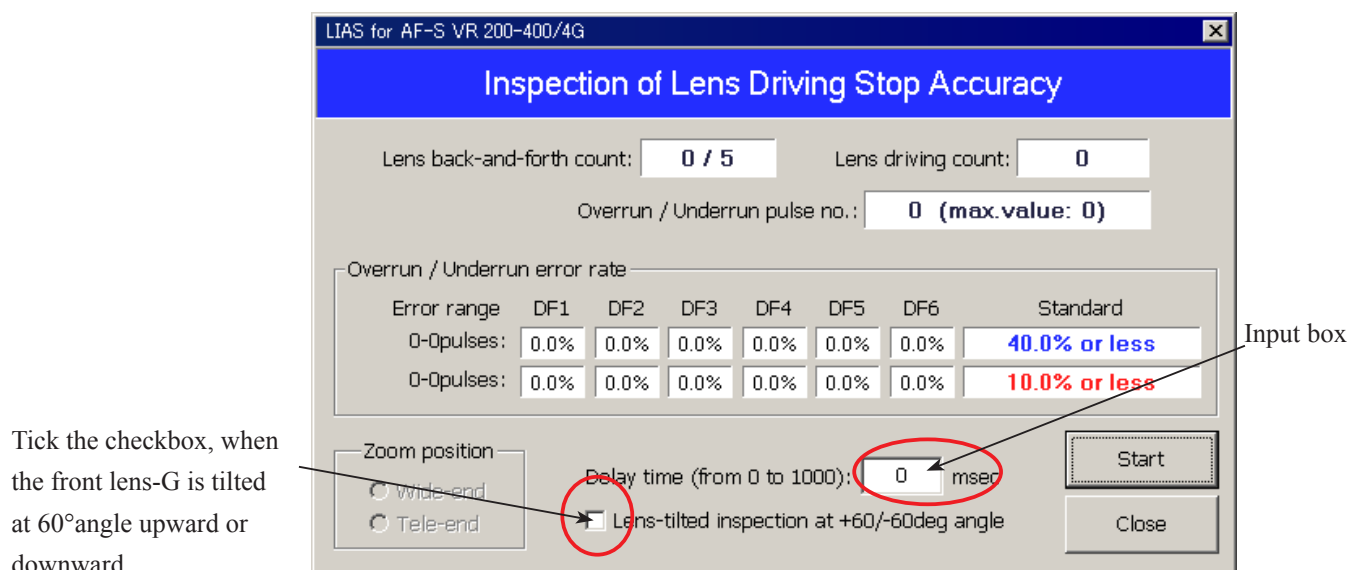

Fig.1
- If the lens stops while inspecting the lens-servo stop accuracy, input a figure in " Delay time"of the below "Fig.1", from "0" to "1000" for the delay time (msec: millisecond) which prevents stopping the lens.